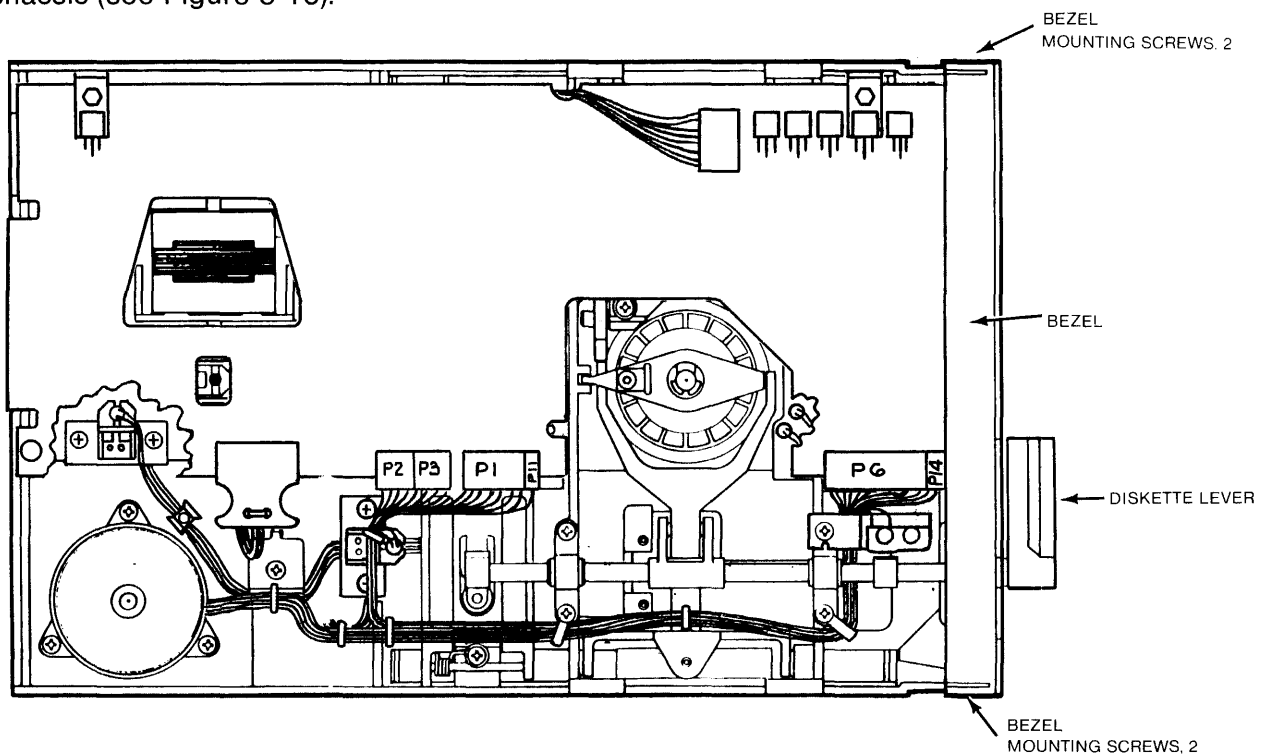

Figure 5-10
- B. Remove the four bezel mounting screws, two on each side, that attach the bezel to the chassis (see Figure 5-10).